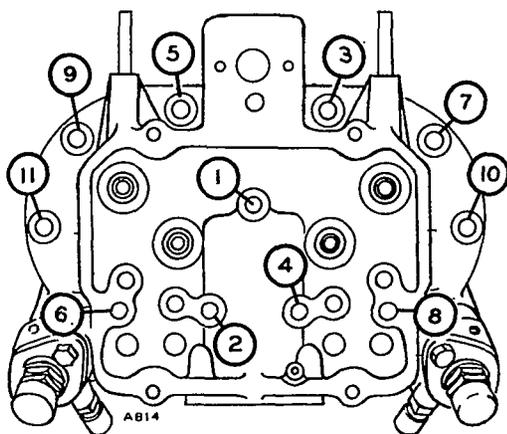

FIGURE 54. HEAD BOLT TORQUE SEQUENCE
5. Install head assembly and gasket to cylinder block. Tighten head bolts to 44 to 46 foot-pounds (60-62 N•m). Follow sequence in Figure 54 and Steps a. through c.
- c. Tighten cylinder head bolts in sequence shown in Figure 54 to 25-30 foot-pounds (34-41 N•m).